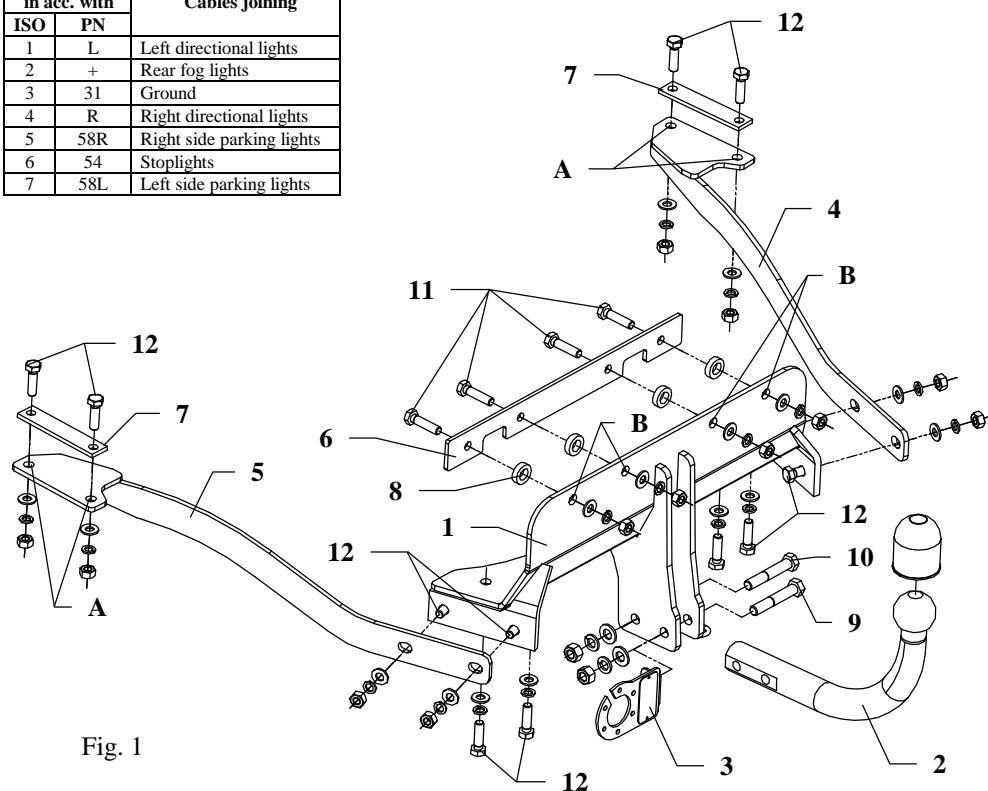

Fig. 1
5. To so prepared holes, apply the main plate (pos. 1) and fix using bolts M10x40mm (pos. 11). Use the distance sleeves  $\varnothing 25$ ; L=7mm (pos. 8) and plate (pos. 6). Look at the drawing 1.
6. Fix side brackets (pos. 4 and 5) together with fish-plates (pos. 7) to the main plate of the towbar (pos. 1) and to the floor. See the drawing 1.
9. Fix tow ball (pos. 2) using bolt M12x75mm (pos. 9) and M12x70mm (pos. 10). With bolt M12x75mm fix also a socket plate (pos. 3). See figure 1.